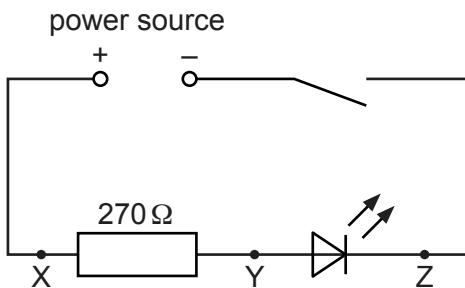

Fig. 2.1
- sufficient connecting leads to assemble the circuit shown in Fig. 2.1 (see Note 5).
4 The resistors should be clearly labelled with the value of their resistance. The 470Ω and 560Ω resistors must be placed by the side of the circuit shown in Fig. 2.1.
5 The supervisor must assemble the circuit shown in Fig. 2.1 for the candidates in advance of the exam. The LED should light when the switch is closed to show it is connected the right way round.
The circuit must be restored to its original state shown in Fig. 2.1, with the switch open and the voltmeter disconnected from the circuit. The 270Ω resistor should be connected into the circuit and the 470Ω and 560Ω resistors placed at the side. Check that the LED lights when the switch is closed.